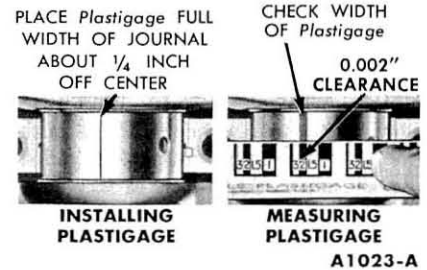

FIG. 25—Installing and Measuring Plastigage—Engine Removed
3. Place a piece of Plastigage on the crankshaft journal the full width of the journal and about 1/4 inch off center (Fig. 25).